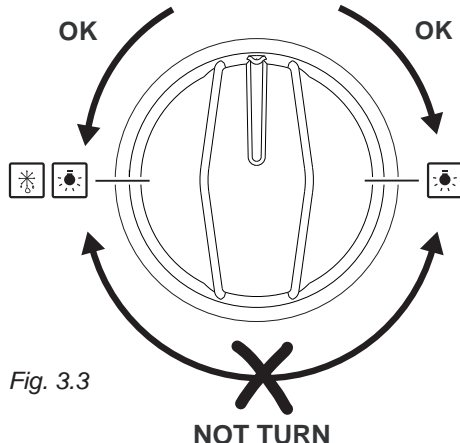

Fig. 3.3
The oven light and the fan motor are controlled by a switch knob on the control panel (fig. 3.3). To light up the oven lamp turn the knob counterclockwise to position.
**IMPORTANT NOTE:** during ignition of the oven burner the fan motor shall be switched off (light and fan control knob in I Off position - fig. 3.3).
With the oven burner control knob in **I Off** position turn the **LIGHT & FAN** control knob (fig. 3.3) on   position.